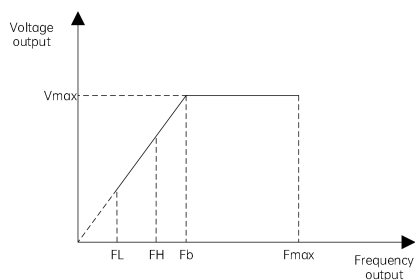

Figure 7-5 Frequency limit parameter definition
The maximum output frequency is the highest frequency output allowed by the drive, such as Fmax in Figure 7-5;
The frequency upper limit is the highest frequency allowed in operation, which is set by the user, such as FH in Figure 7-5;
The frequency lower limit is the lowest frequency allowed in operation, which is set by the user, such as FL in Figure 7-5;
Fb in Figure 7-5 is the basic operating frequency, defined as the minimum output frequency corresponding to the highest voltage output by the drive in the V/F mode.
- (1) The maximum output frequency, frequency upper limit, and frequency lower limit should be carefully set according to the nameplate parameters of the actual motor and the requirements of the operating conditions.
- (2) The limit range of the upper and lower frequency limits has no effect on the jog operation, but it will affect the auto-tuning of the motor (parameter identification)
- (3) In addition to the upper and lower frequency limits, the output frequency of the drive during operation is also affected by the startup frequency, start frequency of DC braking at stop, jump frequency, and other parameters.
- (4) Figure 7-5 shows the relationship of the maximum output frequency, frequency upper limit, and frequency lower limit. Note the order of values during setting.
- (5) The upper and lower frequency limits are used to limit the actual frequency output to the motor. If the frequency reference is higher than the frequency upper limit, the device will run at the upper limit frequency; if the frequency reference is lower than the frequency lower limit, the device will run at the lower limit frequency; if the frequency reference is lower than the startup frequency, the device will run at zero frequency.